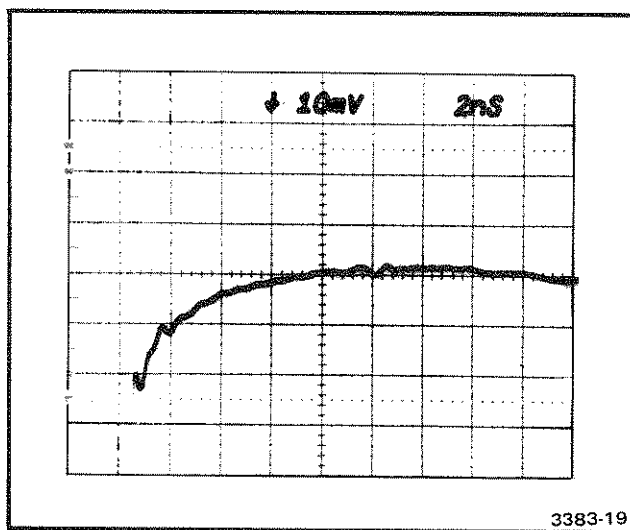

Fig. 4-9. Typical response curve as displayed on the sampling oscilloscope.
l. Adjust—C940 for minimum aberrations with risetime  $\leq 1$  ns. A slight amount of front-corner overshoot is desirable. Refer to Fig. 4-9.